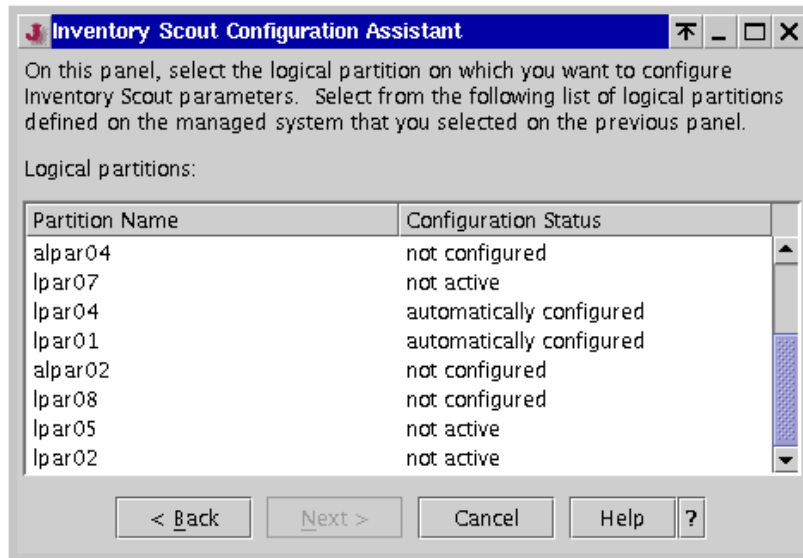

Figure 5-27 Inventory Scout Configuration Assistant
5. A list of partitions, along with each partition's configuration status, will be displayed, as shown in Figure 5-27.
If one of active partitions shows `automatically configured`, then the partition is already configured. If one of the active partitions shows `not configured`, instead of `automatically configured`, you must manually configure the Inventory Scout service for that partition. To configure, select the partition (shown in Figure 5-27) and click **Next**, then enter the following information (the host name or IP address of the partition will be filled automatically):